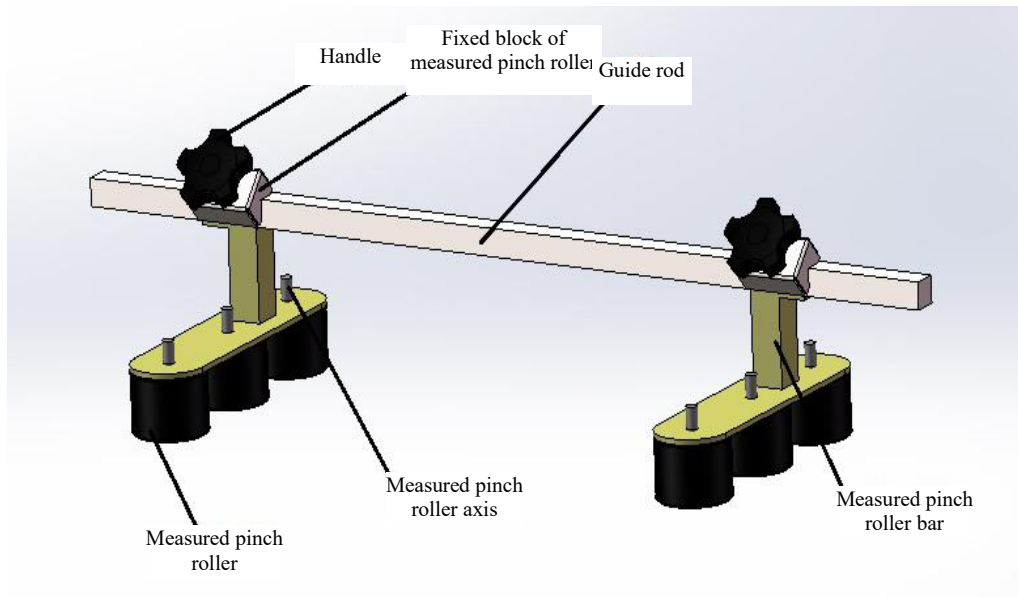

Figure 6
3.4 Lateral pinch roller adjustment (Figure 6)	- 9 -
3.4 Lateral pinch roller adjustment (Figure 6)